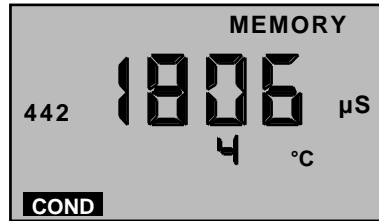

Figure 6
2. "MEMORY" will appear and the temperature display will be momentarily replaced by a number (1-20) showing the position of the record. Figure 6 shows a reading of 1806  $\mu\text{S}$  stored in memory record #4.